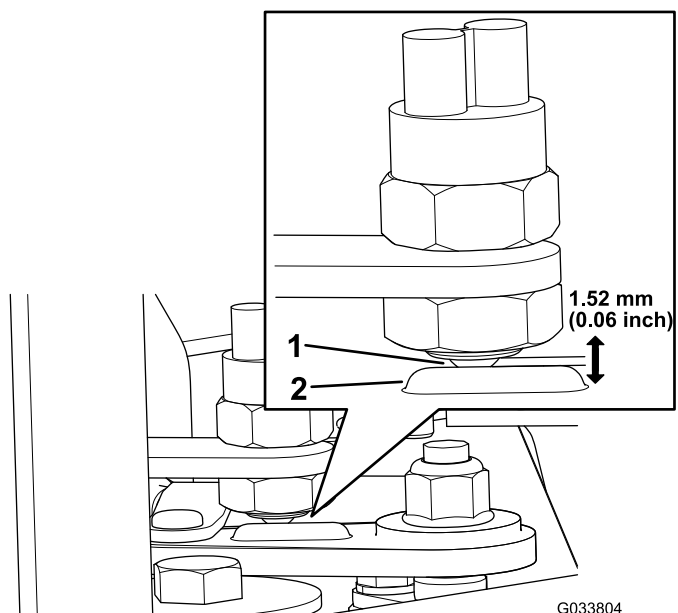

Figure 5
- Adjust the depth of the ball switch to 1.52 mm (0.06 inch) clearance between the bump of the shift lever and the face of the ball switch (Figure 5).
- Ensure that the ball switch is in front of the bump on the shift lever (Figure 5).